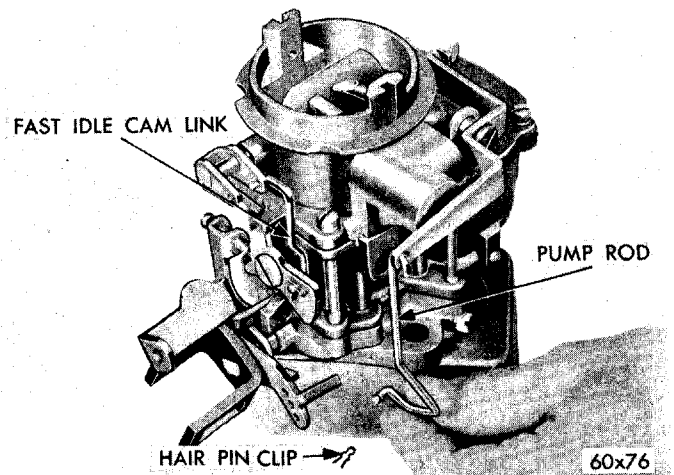
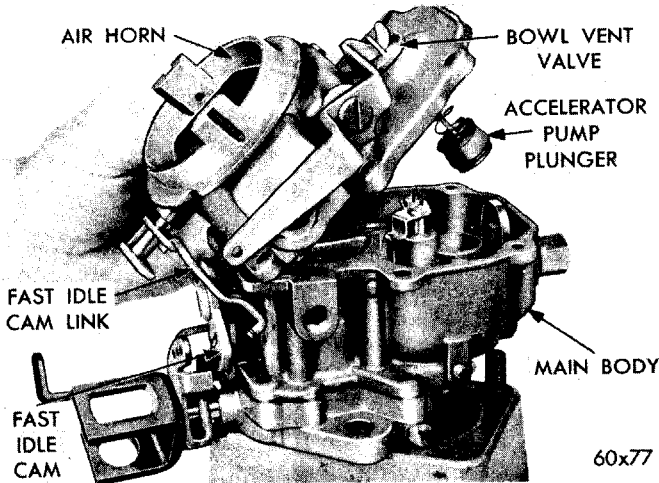

Fig. 2—Removing or Installing Accelerator Pump Rod
Fig. 3 — Removing or Installing Air Horn
- (1) Place the carburetor assembly on repair block, Tool C-3225.
- (2) Remove hairpin clip and disengage the accelerator pump operating rod, as shown in Figure 2.
- (3) Remove the fast idle cam link retaining clip.
- (4) Remove the airhorn retaining screws.
- (5) Tilt the air horn toward the throttle lever far enough to disengage the fast idle cam link from the fast idle cam, as shown in Figure 3. Lift airhorn up and away from main body. Discard the gasket.